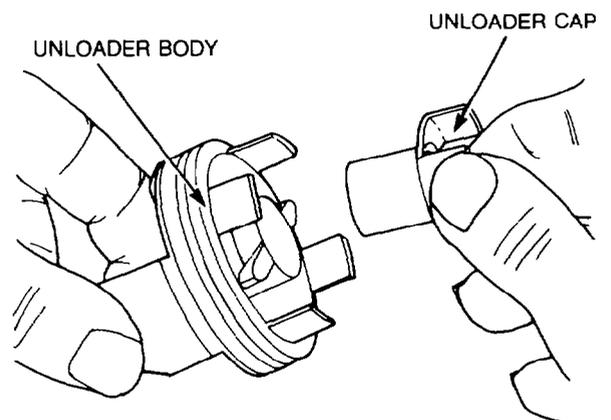

Figure 229 — Unloader Cap — Removal
- e. Remove the unloader cap from the unloader body (see Fig. 229).